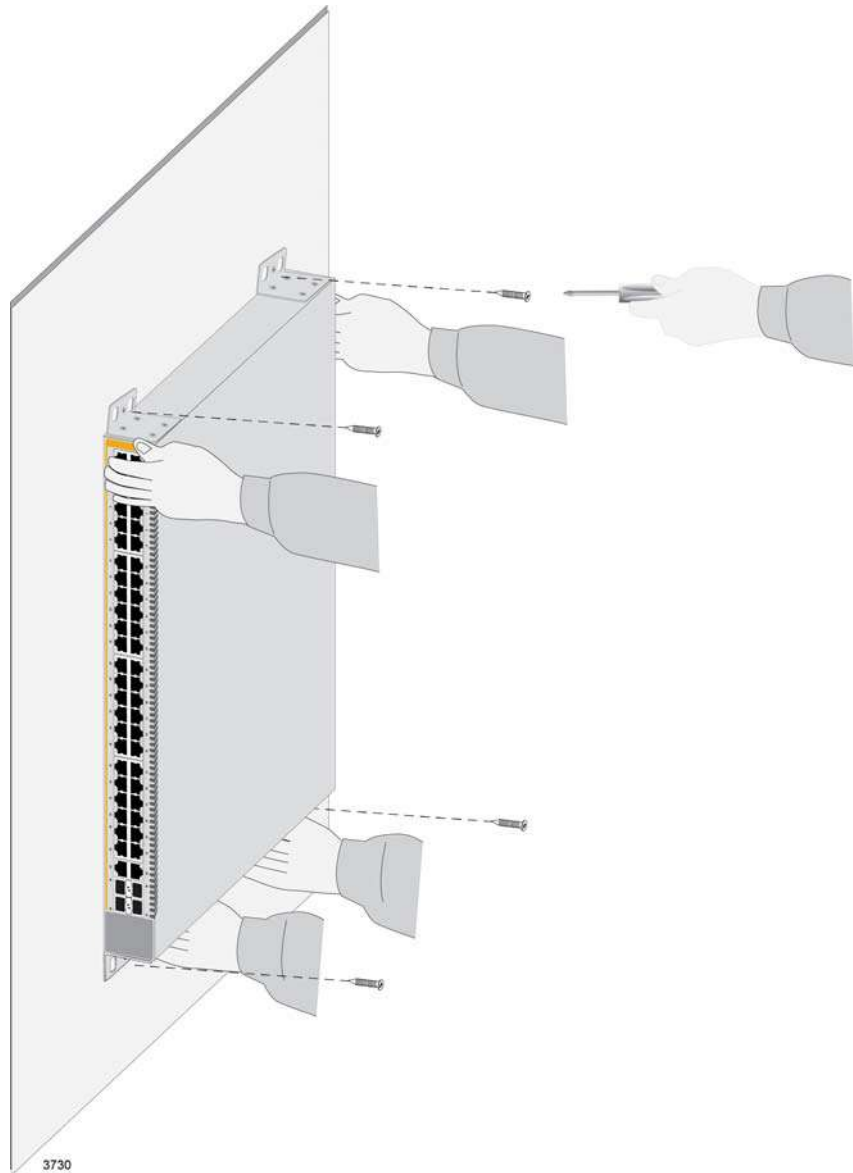

Figure 52. Installing the Switch on a Concrete Wall
7. Have two people hold the switch at the selected wall location while you secure it to the wall with the four provided screws. Refer to Figure 52.